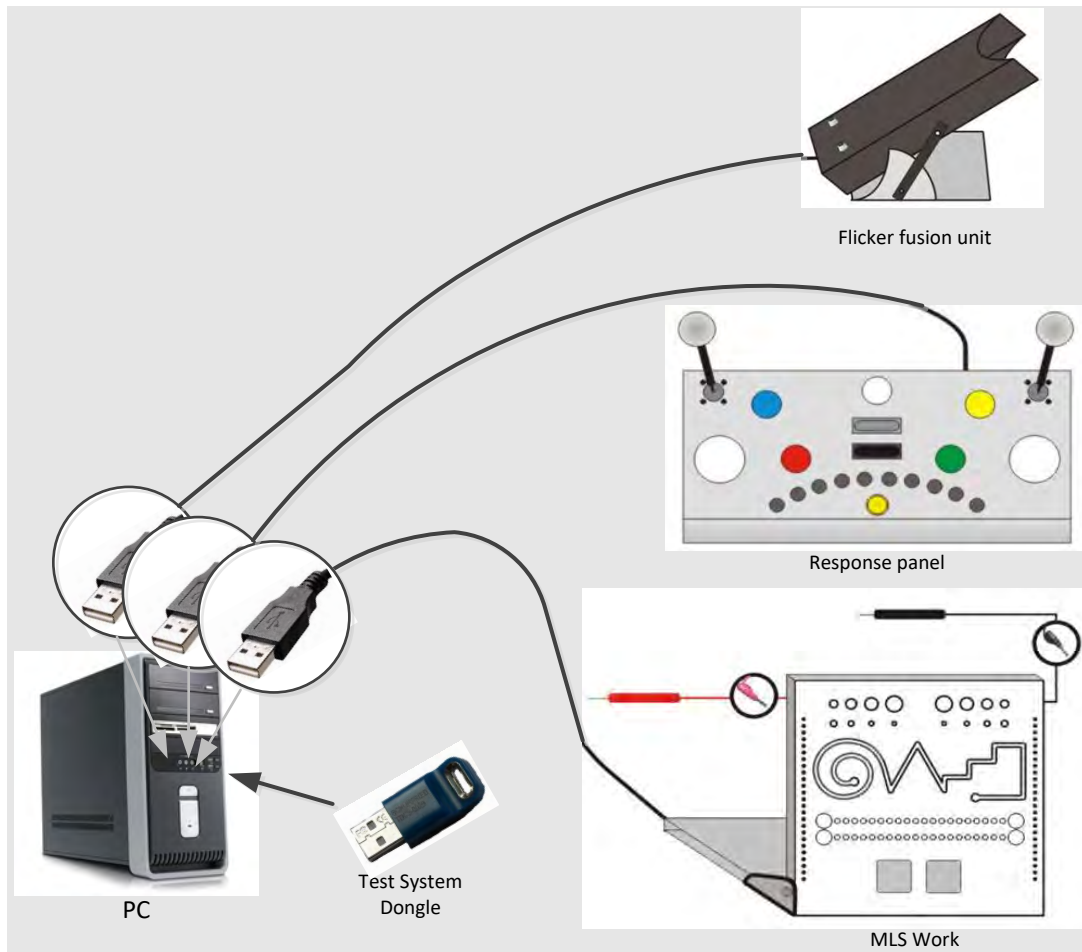

Figure 2: Connecting the USB devices to a PC
- c. The test system dongle, Response Panels, MLS work panel and flicker/fusion unit are USB devices. Connect the **first USB device** to the computer **after installation** as shown in Figure 2. Details of the individual peripheral devices and their cabling are given in chapter 4.